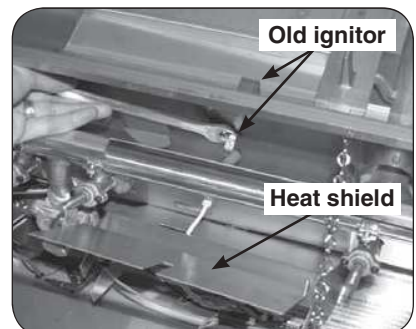
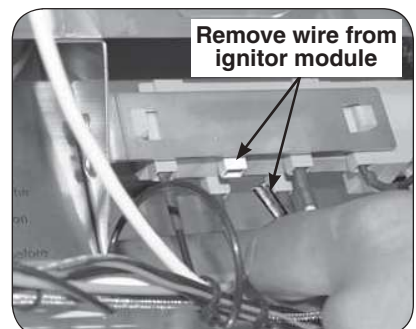

Fig. 2-4 Remove heat shield and old ignitor
Fig. 2-5 Remove old ignitor wire
8. Lift the heat shield up and inward slightly to clear the diagonal slots hooked over the oven fire wall then pull away from the manifold (see Fig. 2-4).
9. Remove the existing ignitor wire by first sliding the rubber sleeve back off the ignitor, then pulling the wire to detach from the ignitor. Next remove the ignitor nut on the control panel side of the fire wall with a  $\frac{9}{16}$  open-end wrench (see Fig. 2-4) and remove the ignitor box from inside the oven. Remove the rubber sleeve from the wire and pull the wire through the heat shield and the insulating tube in the manifold fire wall. Disconnect the other end of the ignitor wire from the ignitor module (see Fig. 2-5).
2. Attach the other end of the new ignitor wire (the insulated end) to any male connector on the back of the ignitor module (reference Fig. 2-5).